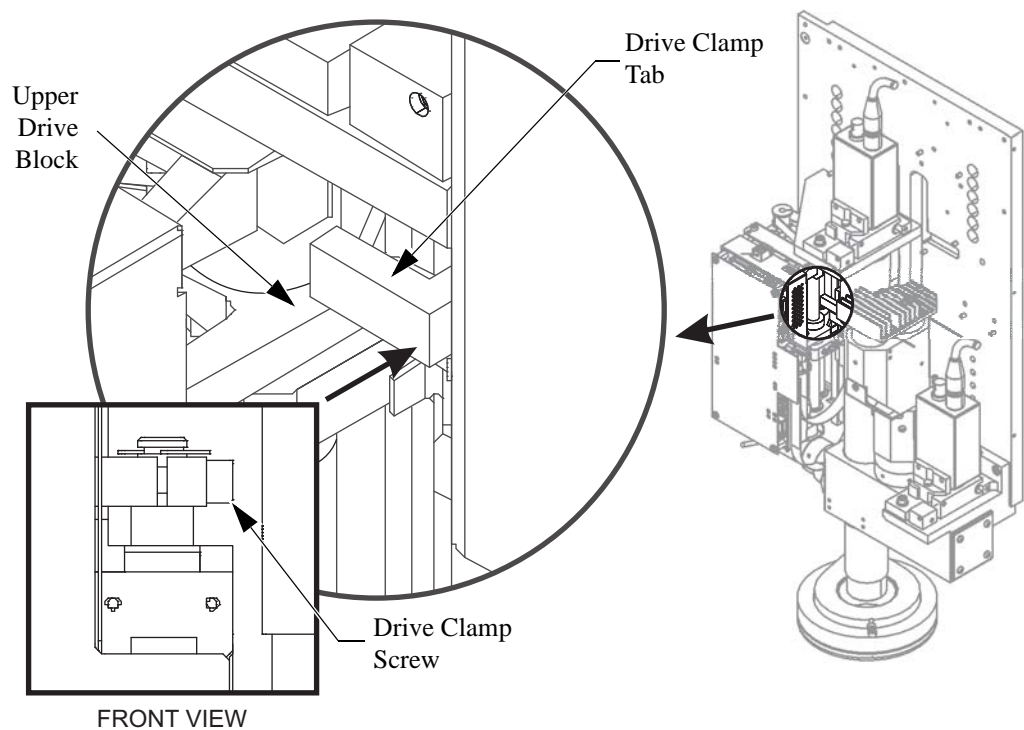

Figure 8-20 Upper Drive Block, Drive Clamp Tab, and Clamp Screw
- **To set the Y direction:** Rotate the inner ring (the outer ring will follow). Make sure the drive clamp does not come off the upper drive block. If it does, loosen the clamp screw and rotate the tab until it engages the drive block. Then re-tighten the clamp screw (see Figure 8-20).